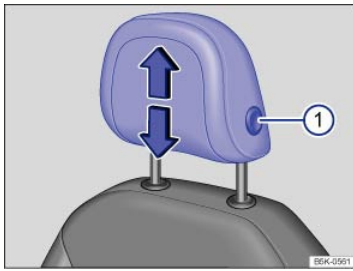

Fig. 82 Adjusting the front head restraints.
- While pressing the button ⇒ Fig. 82①, pull the head restraint up or push it down ⇒ ▲.